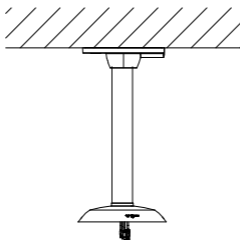

Figure 2-11 Route the Cables
2. Route the cables, and connect the cables to the corresponding interfaces on the camera as shown in Figure 2-11.